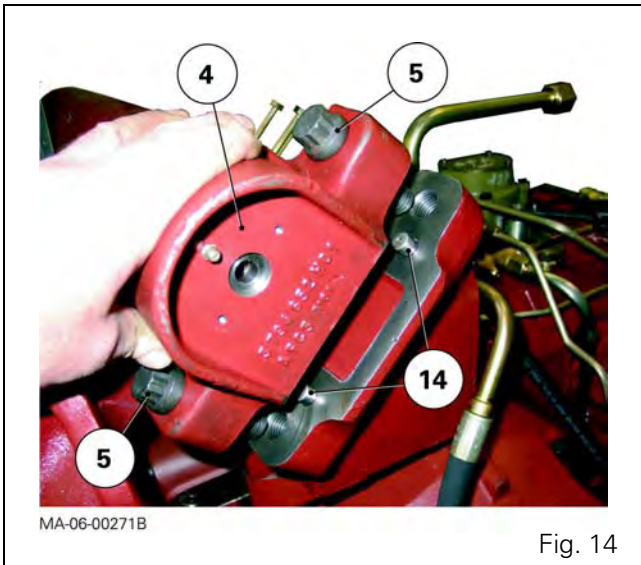

Fig. 14
15. Unscrew the screws (5) (Fig. 14).
16. Raise the single-piece linkage arms slightly to release the bearings from the dowels (14) (Fig. 14).
17. Remove the bearings (4) (Fig. 14). Discard the lip seals (7) (Fig. 15).